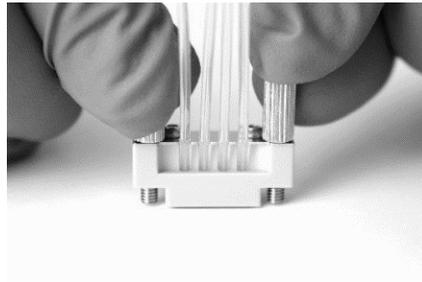
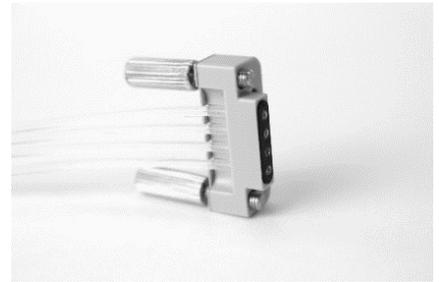

Figure 7
Figure 8
- Push down on to a clean bench so that the tubing is flush with the seal and push the tubing into the cleats. See Figure 7 and Figure 8.